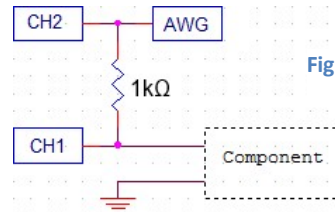

Figure 60: Component tester
- 3) You should see similar voltages as shown on figure 60.